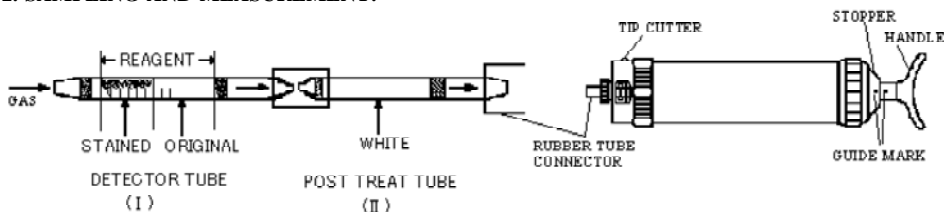

Fig.1
- Break both ends of a new post-treat tube (II) and one side end "A" of a new detector tube (I) by using the tip cutter, and connect them with the rubber tube as shown in Fig. 1.
(2) CONNECT THE POST-TREAT TUBE BETWEEN THE DETECTOR TUBE AND ASPIRATING PUMP WITHOUT FAIL, AS SHOWN IN FIG.1. (Unless the post-treat tube is connected between the detector tube and aspirating pump, high concentration Hydrogen Chloride (HCl) will be exhausted from the detector tube.)
- Break another side end "B" of the detector tube (I) as the detector tube (I) and post-treat tube are